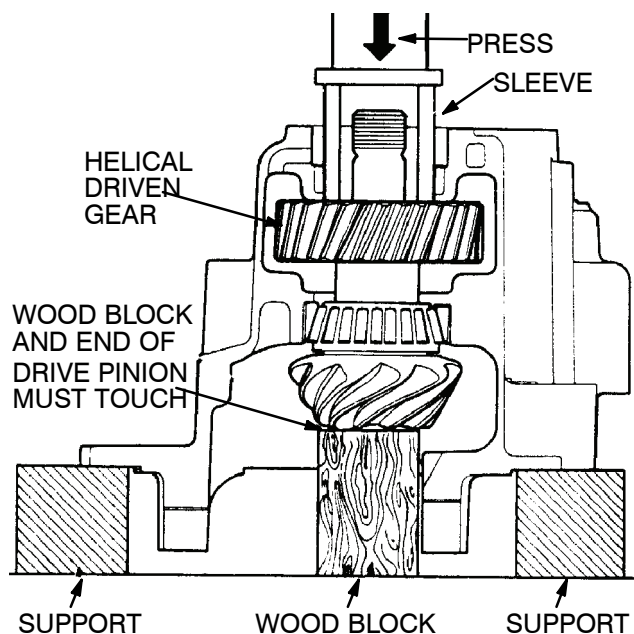

Figure 55.
- (5) Reposition carrier in press with carrier flanges facing downward. Support carrier with press plates under carrier to housing flanges. Block up pinion under pinion head, high enough to allow inner bearing cone and cup to be in contact. See Figure 55.
- (6) Press helical gear completely onto splined portion of the pinion shaft. Continue pressing on the gear until contact with the spacer is achieved. Use a suitable sleeve that will slip over the pinion shaft and against the gear hub. Refer to Figure 55.
- (7) Block up pinion under pinion head, high enough to allow inner bearing cone and cup to be in contact. Press helical gear completely onto pinion shaft until contact with the spacer is achieved. Use suitable sleeve that will slip over pinion shaft and against gear hub. See Figure 55.
- (8) Install the correct size of spacer on the shaft of the pinion in front of the helical driven gear.